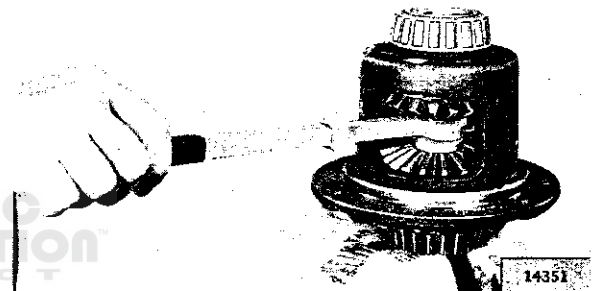

FIG. N-47—INSTALLING GEAR ROTATING TOOL
k. Position the gear rotating tool into the top side gear, as shown in Fig. N-47.